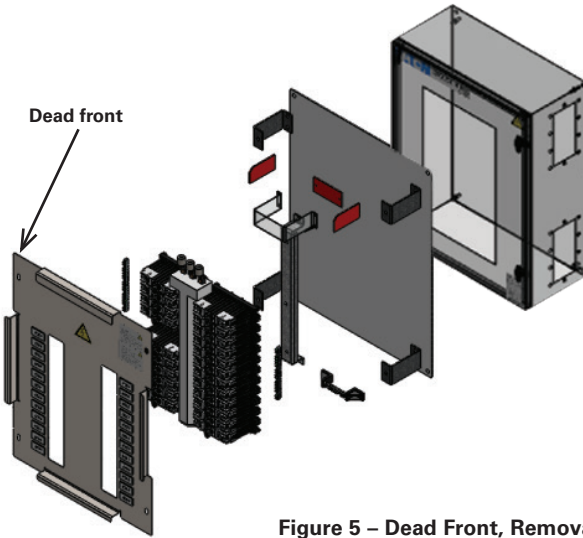

Figure 5 – Dead Front, Removal
2. Remove the protective cover (dead front) by removing the screws in four (4) corners (see Figure 5).